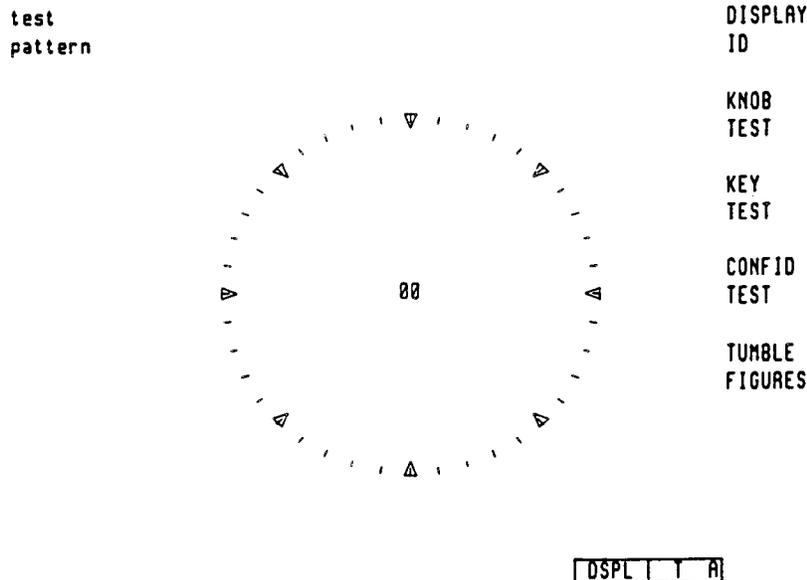

Figure 5-10. Knob Test Display
2. Press **DISPLAY TESTS**, then **KNOB TEST**. The CRT display should be similar to the one shown in Figure 5-10. Note that the Knob Test value is 00.